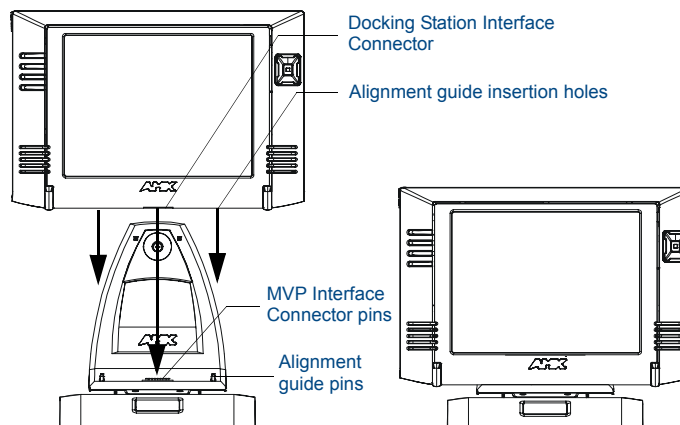

FIG. 5 Installing an MVP onto an MVP-TDS
- Carefully grasp both sides of the MVP panel and use the MVP-TDS alignment guide pins to position the MVP panel atop the MVP Support Cradle (with a downward motion) (FIG. 5).